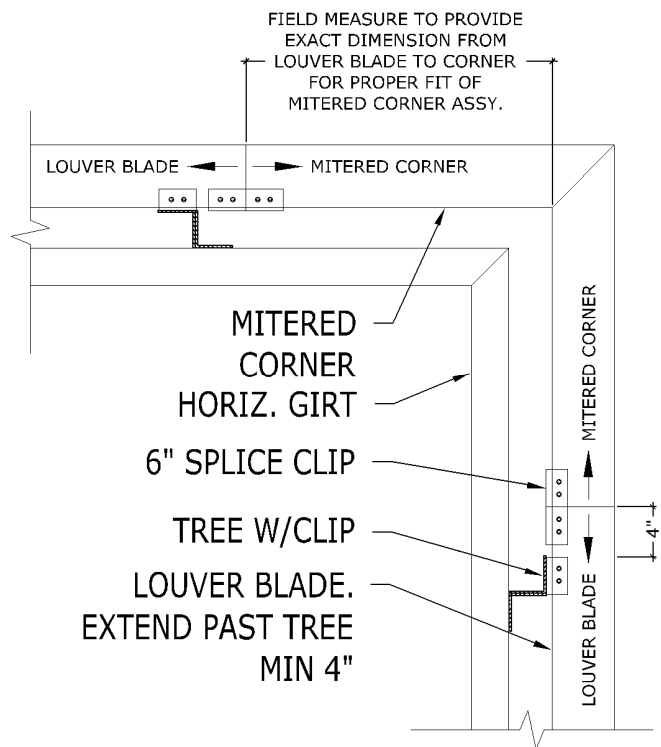

FIGURE 8
**Mitered Corners:** When mitered corners are being used, the first tree on each side of the corner must be placed far away enough from the corner to allow the mitered corner assembly to fit and splice to the louver blade as illustrated in Figure 8. The mitered corners are typically 24" by 24", in which case the trees should be placed at least 28" from the corner to the leading edge of the tree. The louver blades should be installed to extend past the tree by a minimum of 4" and must terminate at an exact dimension to allow a proper fit of the mitered corner assembly. Dry fit and field measure to ensure the mitered corner assemblies will fit evenly and against the louver blades on each side of the corner.
To secure the mitered corners in place, use a 6" splice clip, centered on the butt joint of the louver blade and mitered corner assembly, and fasten with two Tek screws on each side as illustrated in Figure 8.